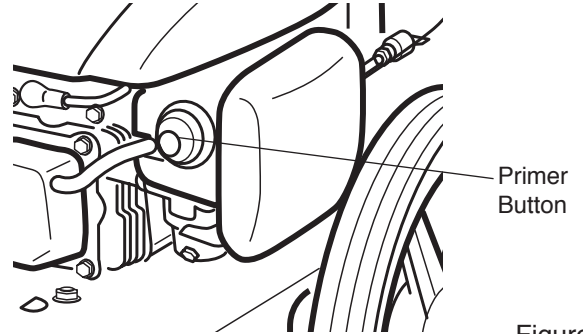

Figure 5
**Primer Button** Injects fuel directly into the carburetor for faster starts. (See Figure 5)
When starting a cold engine, push the primer button three times (See Figure 5). Wait approximately two seconds between each push.